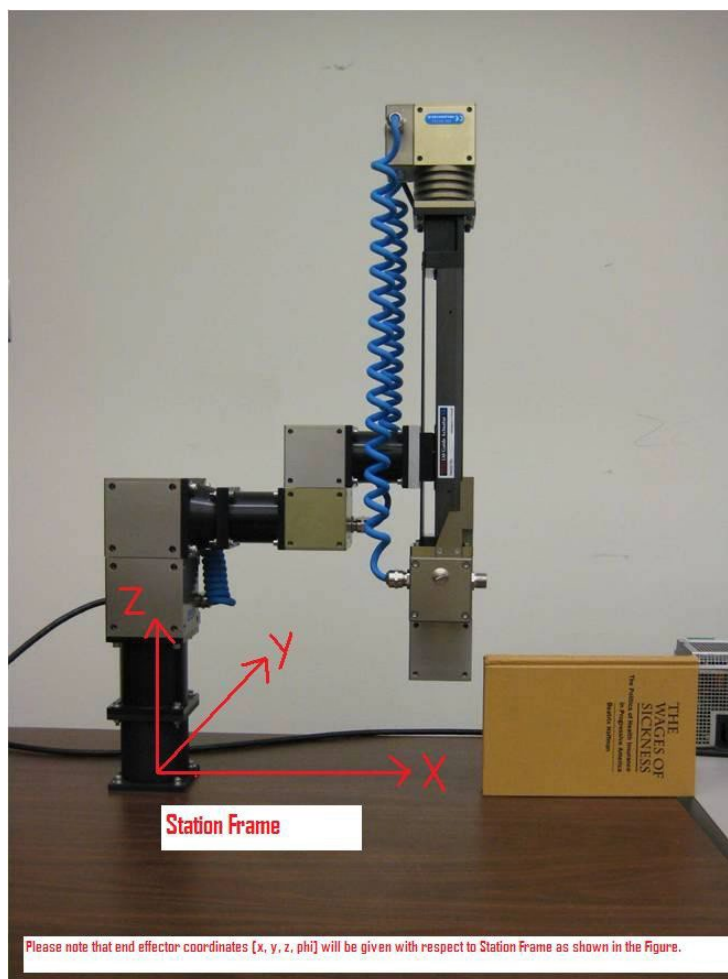

Figure 1: Assigned Station Frame. The robot is shown in joint configuration $(0^\circ, 0^\circ, -200\text{mm}, 0^\circ)$.
In this project, you will simulate a 4-DOF SCARA type (RRPR) manipulator and apply the subject matter of your lectures to the manipulator. The SCARA Configuration, shown in Figure 8.5 of your text, is the real robot is shown in Figure 1, and a schematic of the real robot is shown in Figure 2. This simple manipulator is complex enough to demonstrate the main principles of the course while not bogging you down with too much complexity. Each part of the project builds upon the previous one so that at the end of the project, an entire library of manipulator software to drive the robot will be created. Two SCARA robots are setup in the lab, and teams will test their custom programmed functions on the real robot (if their functions safely pass all tests in simulation). The project is to be done in groups, with each group consisting of **three students**.
- Assign D-H frames to the manipulator. Assign station frame $\{S\}$ as shown in Figure 1. Assign the origin of Tool frame $\{T\}$ in the center of the gripper (note Z_T points downwards). Determine the D-H parameters and the forward kinematic equations. Although numerical values are given, derive forward and inverse kinematics with symbolic values and then substitute the numerical values as appropriate parameters in your code.